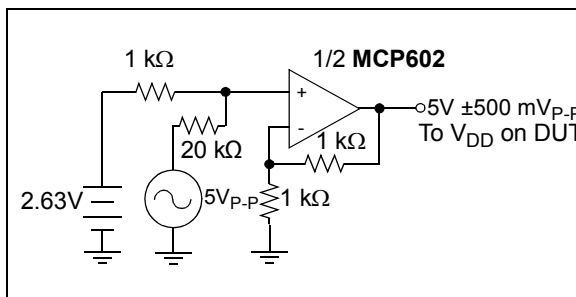

FIGURE 1-4: Power Supply Sensitivity Test Circuit (PSRR).
Note 4: $V_{DD} = 5V$ DC ± 500 mV_{P-P} @ 1 kHz, see test circuit Figure 1-4.
4: $V_{DD} = 5V \text{ DC} \pm 500 \text{ mV}_{P-P}$ @ 1 kHz , see test circuit Figure 1-4.
- 4: $V_{DD} = 5V$ DC ± 500 mV_{P-P} @ 1 kHz, see test circuit Figure 1-4.